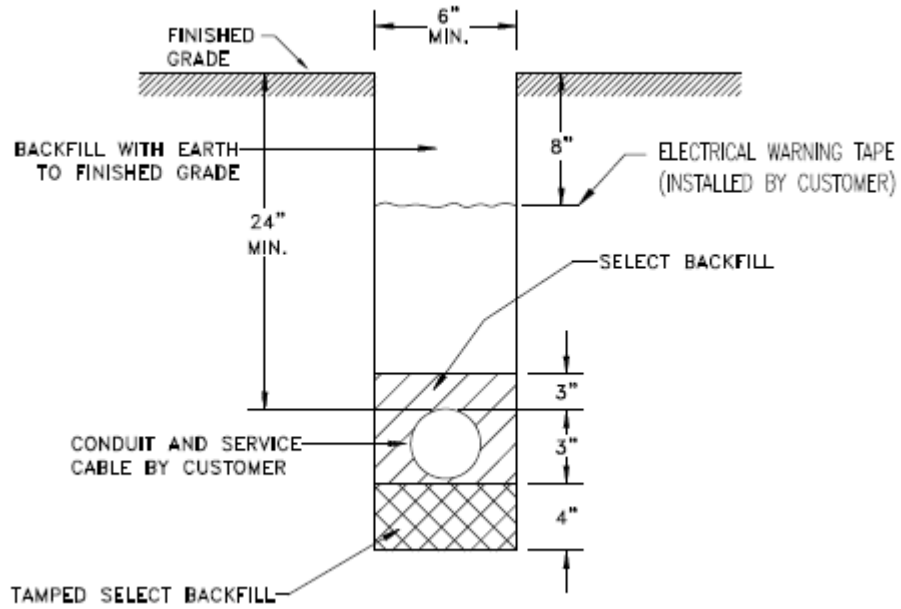

FIGURE 6.
- 3.2.2.6. Provide and install 3” PVC schedule 40 conduits from new homes to service enclosures/transformers. See figure 6.
- 4.1.4 A red electrical warning tape shall be provided by the developer and shall be installed by the developer 16" directly above all conduits. This corresponds to approximately 20" below final grade for primary and secondary conduit as shown in figure 7, and 8" below final grade for service laterals as shown in figure 6.
- 4.2.3.1. At the meter base, install a riser conduit and secure to the structure. The company recommends that the customer use a Slip joint connection. See Figure 13.. Install a 3" diameter, 24" radius bend. An 18"x18"x18" gravel drainage pocket shall be installed at the bottom of each conduit bend to drain conduit. Gravel used shall be 2B or ASHTO 57 limestone, free of fines, and non-compacted. Drill four 1/2" diameter holes, spaced on 3" centers, starting from the low point of the bend and proceeding away from the bend. All internal burrs shall be removed. The gravel drainage pocket and the conduit passing through it shall be wrapped in drainage geotextile. Riser conduit and 24" radius bend shall be 3" nominal PVC, schedule 80 per NEMA TC2 (EPC-80-PVC for type IV applications), gray in color only. (All conduit with less than 18" of cover must be schedule 80.) Extend 3" diameter conduit from the meter base to Company's service enclosure or transformer at the street. Service lateral conduit and bend must be 3" nominal PVC, Schedule 40 per NEMA TC2 (EPC-40-PVC for type II applications), gray in color only. Take proper care to prevent debris from entering conduit. Install a 1/4" nylon or polypropylene pulling line within the conduit. Be sure line moves freely after solvent cement has cured. Trench must be deep enough to provide 4" of tamped select backfill below the conduit and 3" of tamped select backfill over the conduit. The minimum total cover over the conduit is to be 24", see figure 6. Select backfill shall consist of sand, crushed stone (such as limestone fragments/dust) or other material approved by the Company. Remaining backfill shall be free of materials that may damage the conduit, and must not contain solid material (rocks, stones, etc.) larger than 2" or with sharp edges.